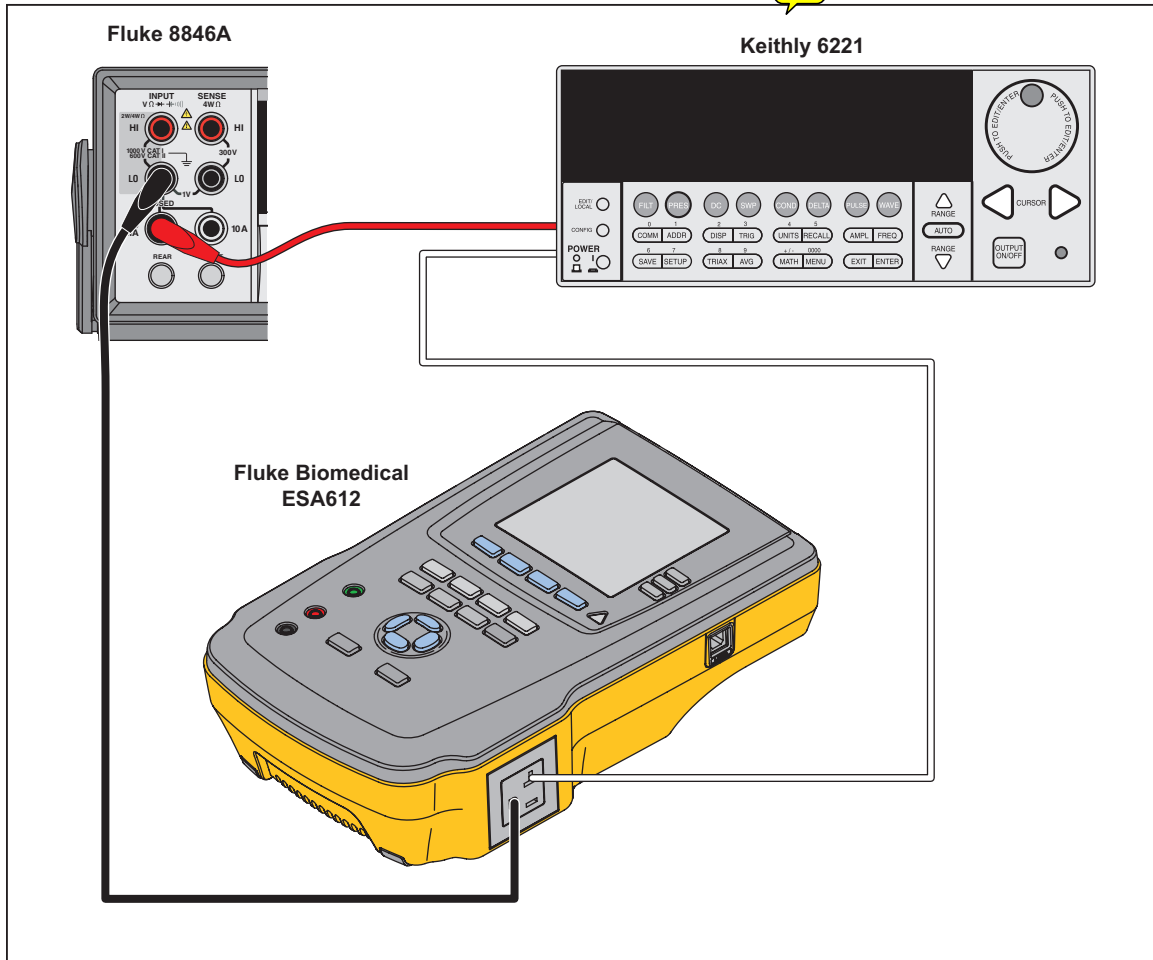

Figure 3-16. Differential Leakage Verification Connections
- ~~1. Connect the current source to the EO Neutral and the DMM 400 mA current input jack. Connect the DMM Input (-) to the EO ground. See Figure 3-16. Set the current source to 76.00  $\mu$ A (107.48  $\mu$ A p-p), 100 Hz, with a 25 V compliance voltage, and the DMM to the 100  $\mu$ A ac range.~~